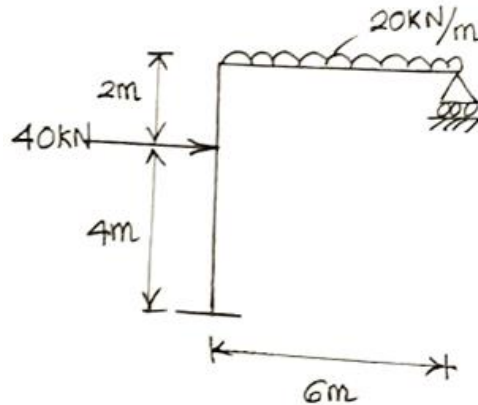

Fig 2
| 5 a) | Analyse the plane frame shown in figure 2 by flexibility matrix method and draw | (15) |